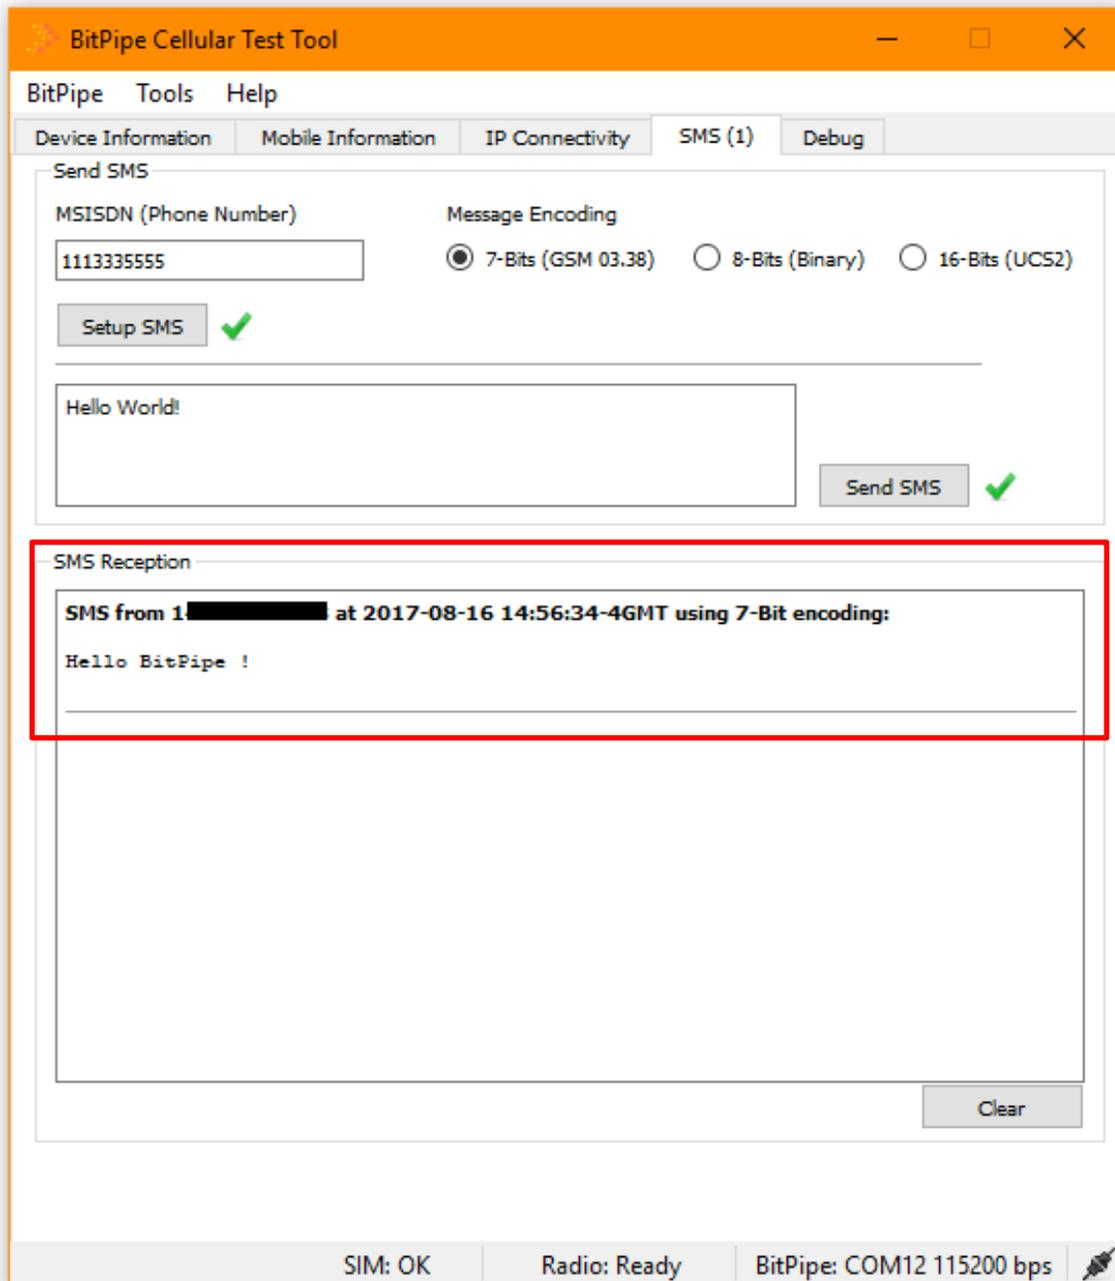

Figure 28 SMS reception
- 9- Once received, the contents of the SMS message will appear in the “SMS Reception” text box (see Figure 28).